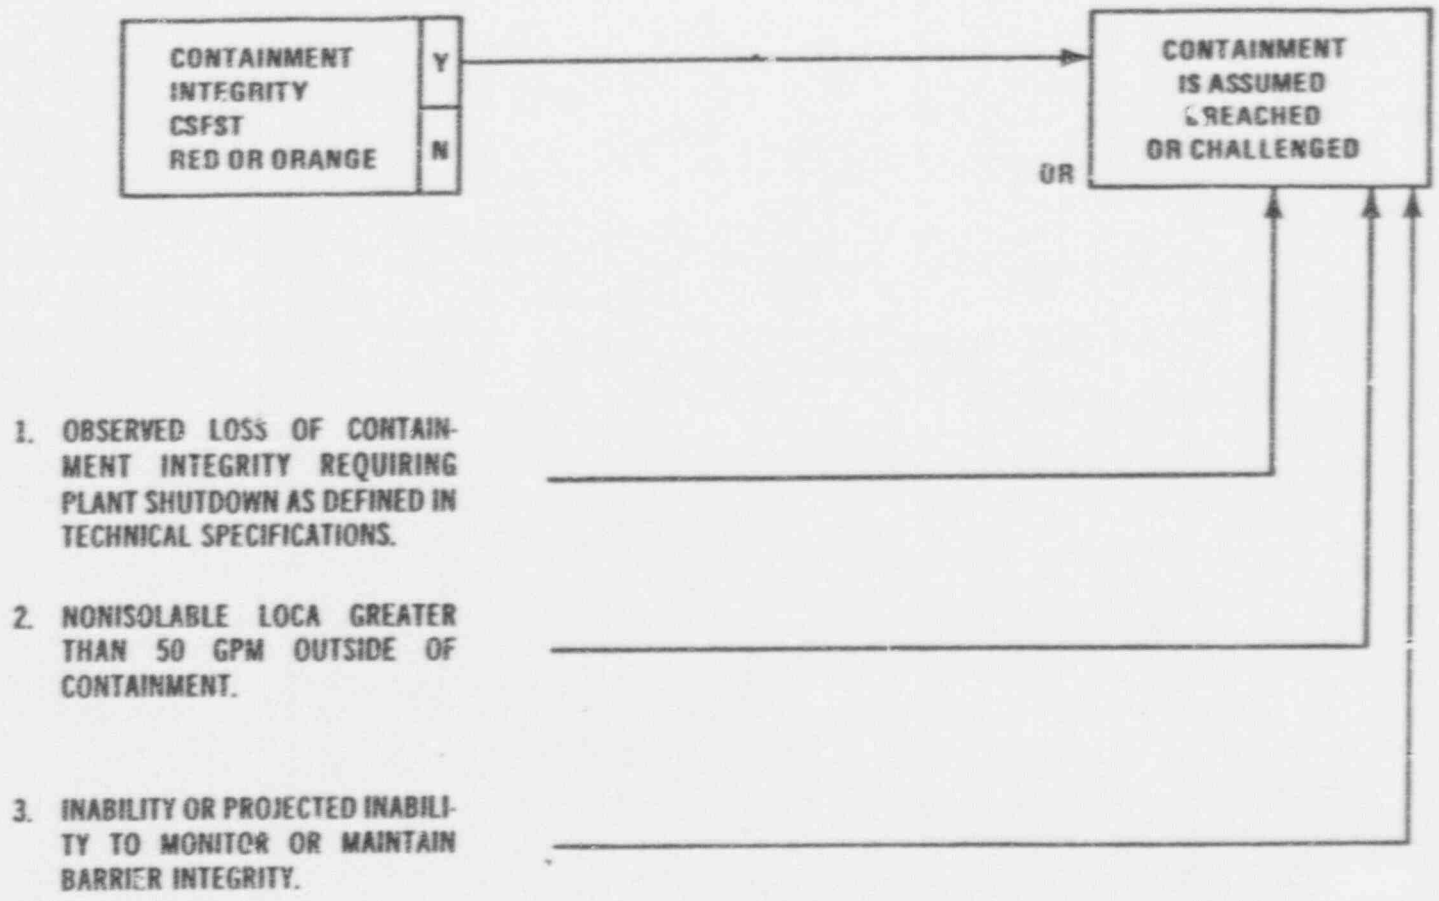

FIGURE 3 - CONTAINMENT INTEGRITY
5.1.2.3 Use Figure 3 to determine if the containment is breached or challenged. Enter yes or no as applicable on Data Sheet 1, part 1c.
- c. Containment Integrity (See Figure 3) YES \_\_\_ NO \_\_\_